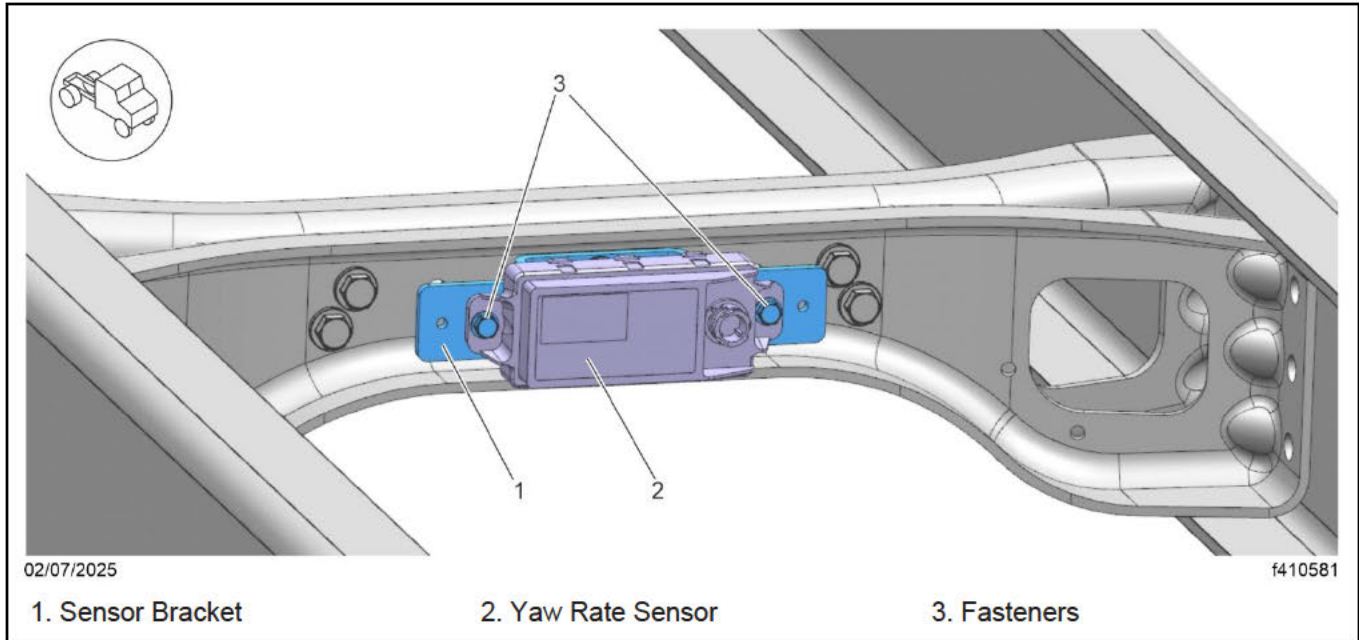

Fig. 3, Installing the Yaw Rate Sensor
13. Install the new yaw rate sensor bracket on the new crossmember, as shown in **Fig. 3**. Make sure the bracket is on the forward side of the crossmember facing the front of the vehicle. Tighten the 1/2-inch bracket mounting fasteners 63 lbf·ft (85 N·m).
14. Install the yaw rate sensor (removed in step 4) on the new sensor bracket, as shown in **Fig. 3**. Tighten the fasteners 11 lbf·ft (15 N·m).